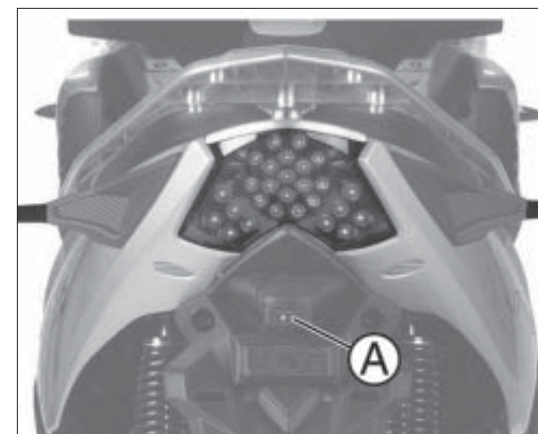

fig. 4
- unscrew screw A fig. 4;
- reposition the plastic cover, screwing down the retaining screw A fig. 4.